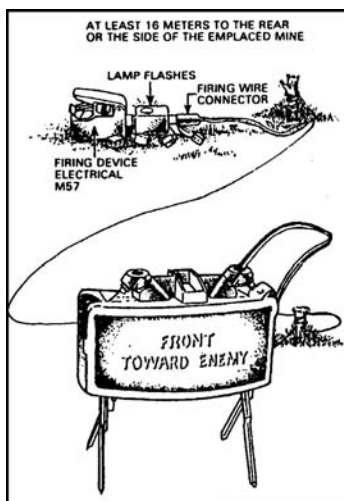

Figure 071-325-4425-12. Testing the circuit
8. Repeat step 2 to test the circuit after the firing wire is laid out and the cap is placed inside the mine. This is to see if any breaks in the wire have occurred (figure 071-325-4425-12).